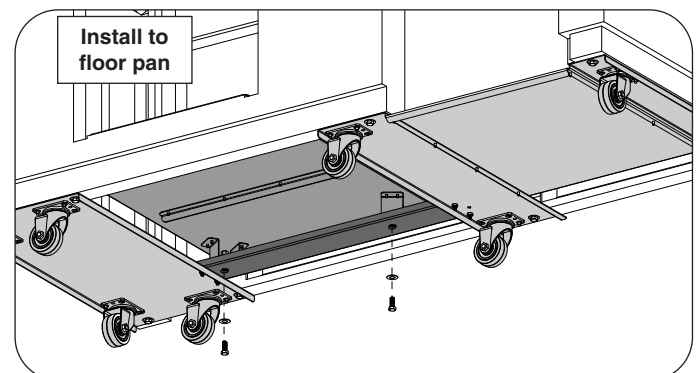

Fig. 3-4 Install floor pan, and fasten to wheel assembly and support channel
7. Place the floor pan as instructed in the island owner's manual, then fasten the left wheel assembly and the support channel as shown in Fig. 3-4.